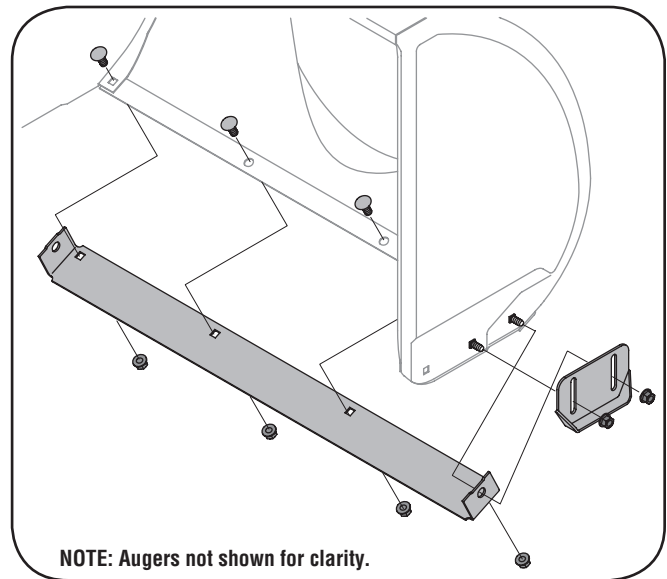

Figure 6-1
1. Remove the carriage bolts and nuts securing each skid shoe to the auger housing, See Fig. 6-1.
3. Remove both skid shoes and hardware including carriage bolts and nuts which attach shave plate to the snow thrower housing. For location of shave plate, see Fig. 6-1.
The augers are secured to the spiral shaft with four shear pins and cotter pins. If you hit a foreign object or ice jam, the snow thrower is designed so that the pins may shear. Refer to Fig. 6-1.